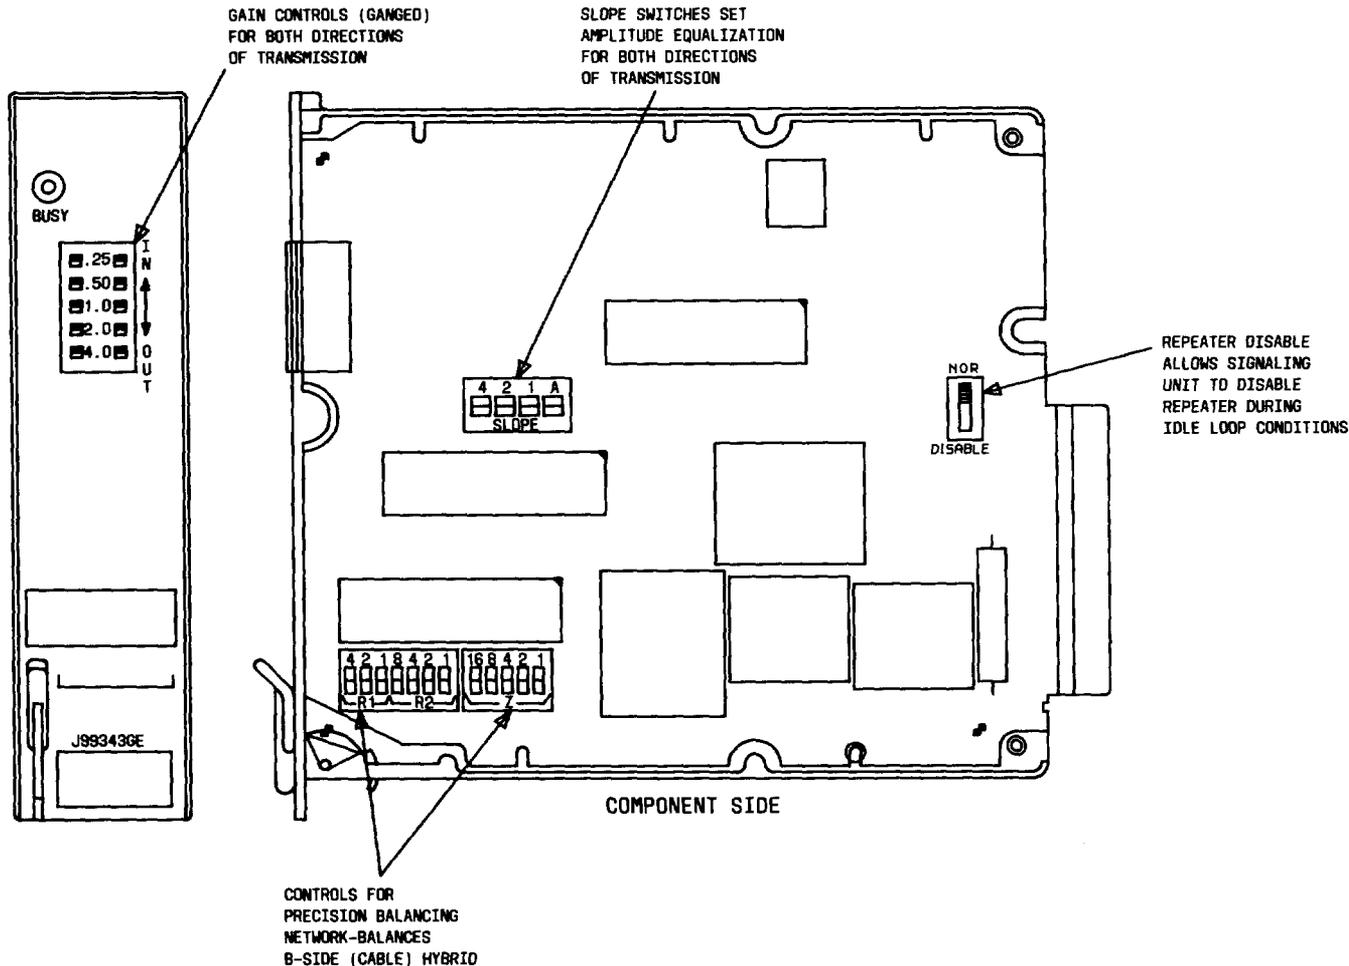
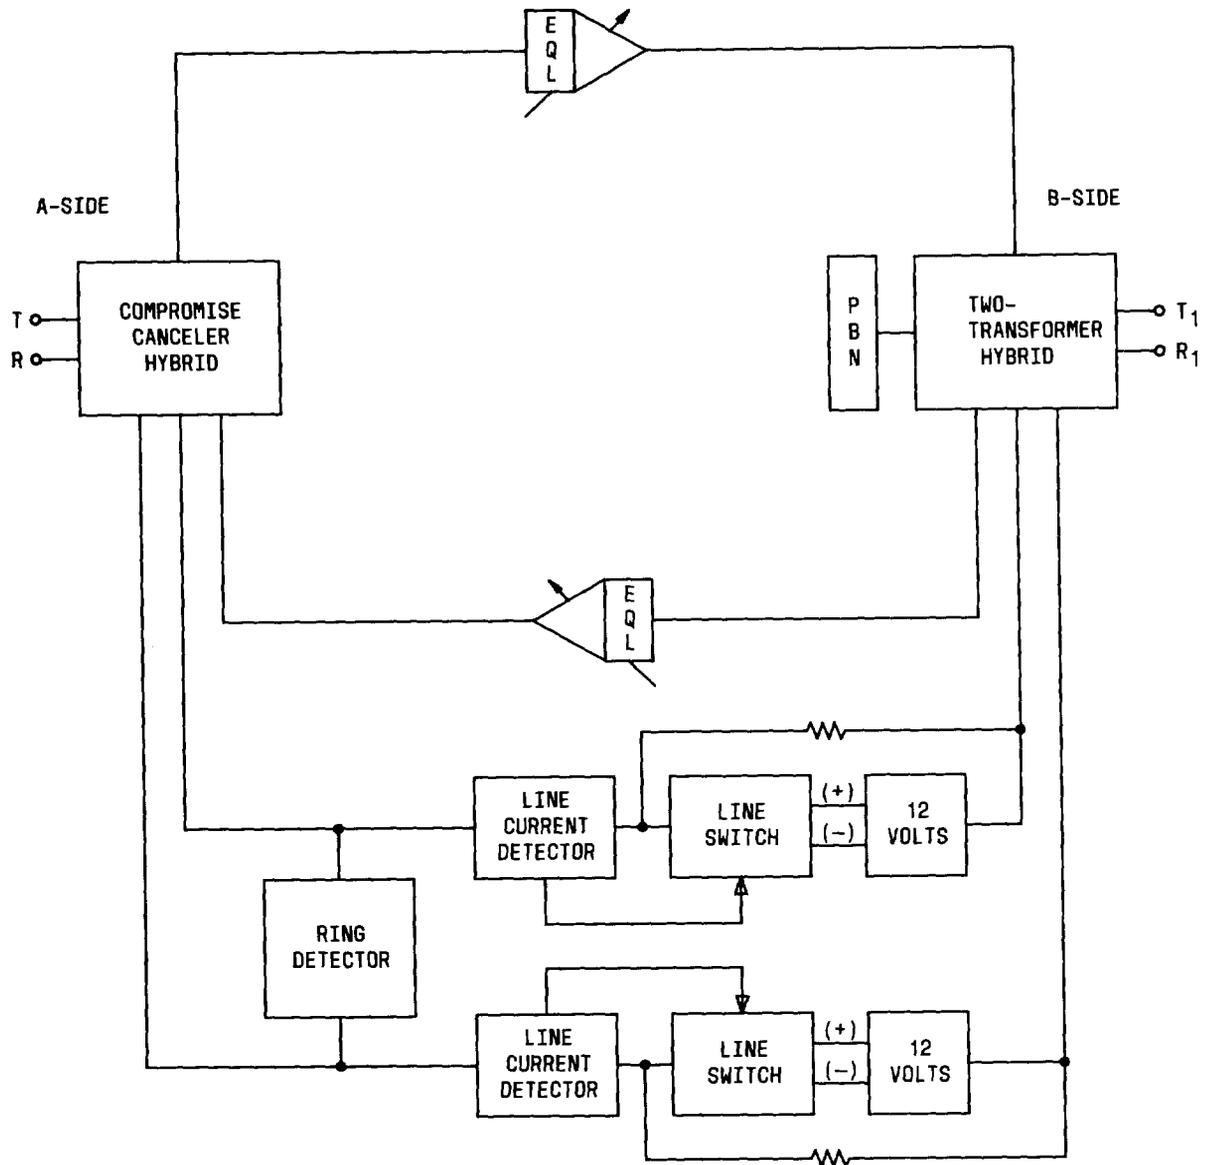

Fig. 1—J99343GE Combined Function Unit
Fig. 2—Block Design of the J99343GE CFU
2.01 The J99343GE is shown in Fig. 1. It provides gain, DC range extension, and equalization between terminal equipment and nonloaded facilities. Figure 2 shows a block diagram of this unit.
The five principal parts of the LSE portion of the J99343GE CFU as shown in Fig. 2 are as follows:
2.16 In the following paragraphs, the rocker-type switches for a particular function are operated when depressed toward the respective designation. The sum of the values of the switches operated is the setting for that function. The unit controls are illustrated in Fig. 1.
2.19 PBN(R1, R2, and Z)—The controls for the nonloaded facility PBN are illustrated in Fig. 1. This figure shows the three groups of controls: R1 (4, 2, 1), R2 (8, 4, 2, 1) and Z (16, 8, 4, 2, 1). See Section 332-912-212 for prescription settings of the PBN (nonloaded).